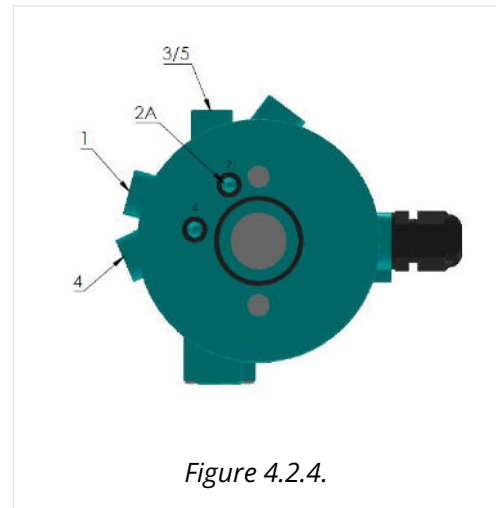

Figure 4.2.4.
The pneumatic connections for **seat valve actuators** – normally close (NC) and double-acting (DA) as shown in *Figure 4.2.4.*